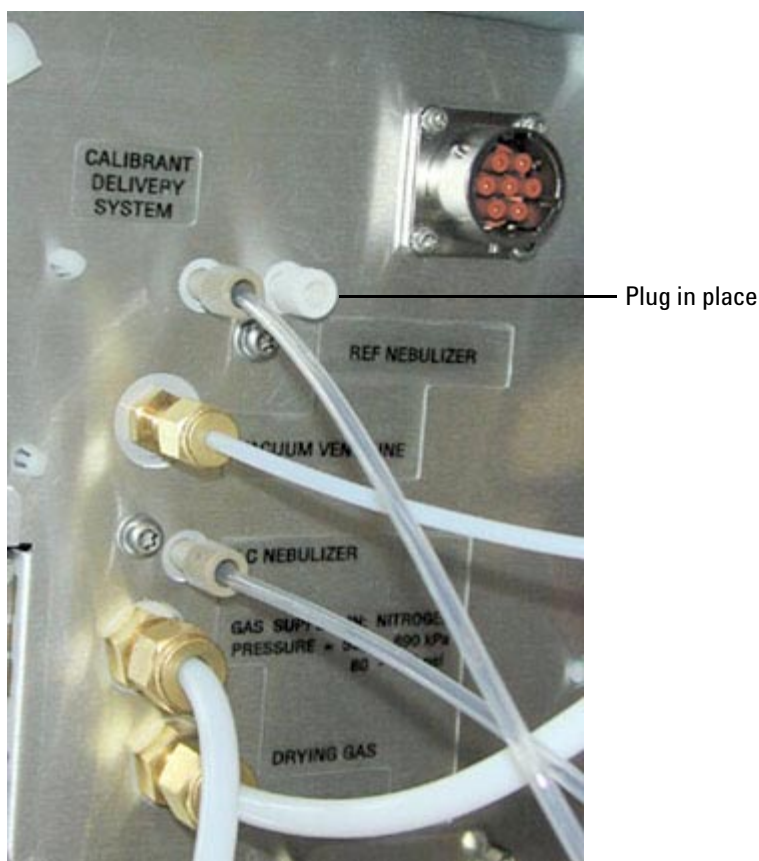

Figure 109 Plug the Reference Gas supply line
- 6 Disconnect the HPLC nebulizing gas line, the HPLC sample introduction line, the Reference Mass Introduction Line, and the Reference Nebulizer Gas line. You will need to plug the Reference Gas line at the side of the instrument. See Figure 109.